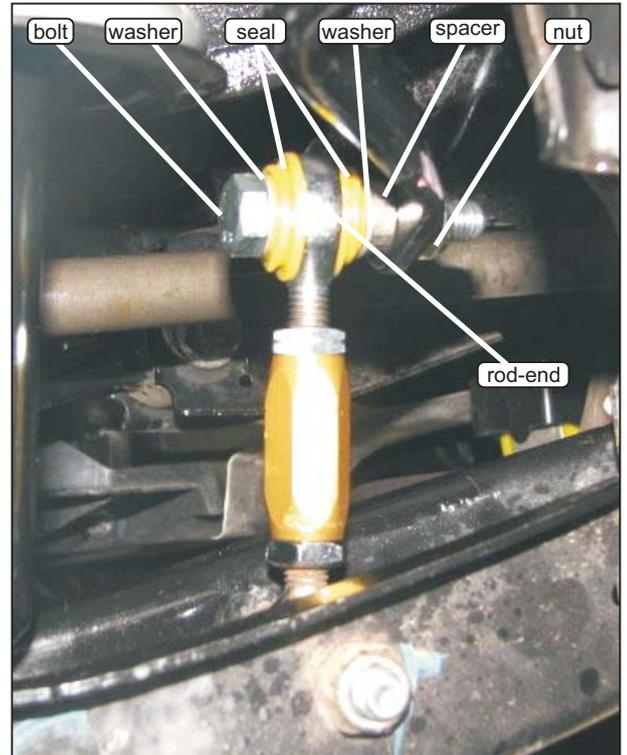

Fig 1 - KLC066 left side, rear view.
2. Assemble new links, as shown in Fig 1 & 2.